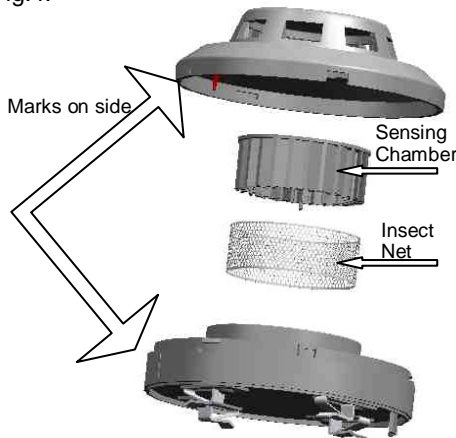

Fig. 4
3. Remove the detector from base. Use straight screwdriver to prize the top cover through three small grooves. Use a vacuum cleaner or cleaned, compressed air to remove dust and debris from the insect guard. If the dust is too much to clean up, you can remove the sensing chamber and pull the insect guard to clean or replace. Use a vacuum cleaner or cleaned, compressed air to remove dust and debris from the sensing chamber. Reinstall the sensing chamber and insect guard properly. Aligning the marks on enclosure, install the top cover again. Refer to Fig.4.